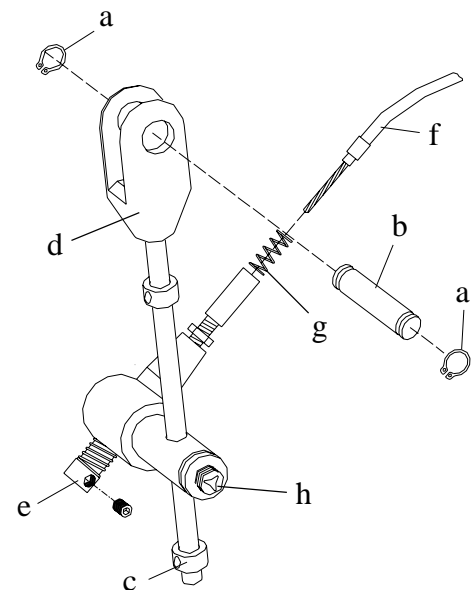
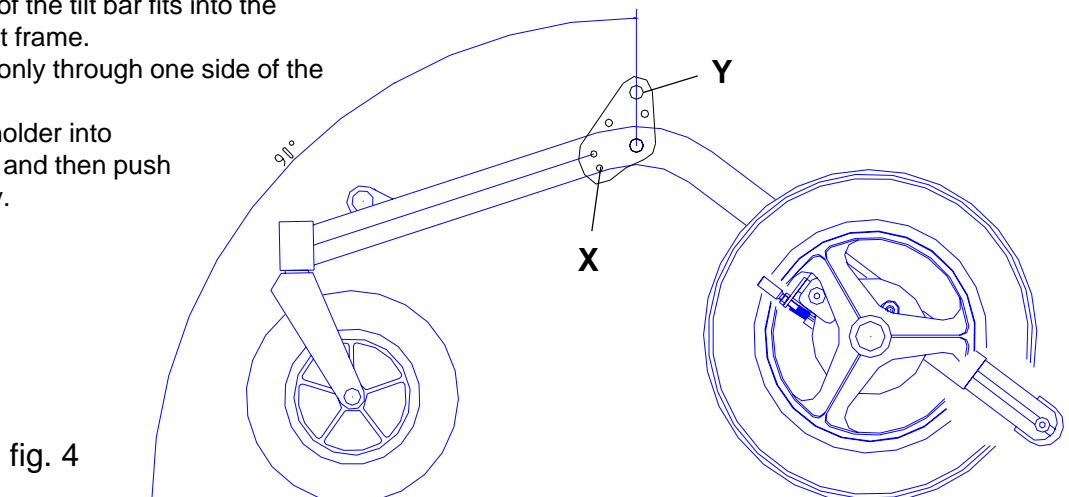

Figure 2
fig. 4
- Loosen the tilt bar (d) from the seat frame by removing one of the circlips (a) and pulling out the pin (b); see Figure 2 (use circlip pliers).
- Adjust the adaptor as shown in Figure 4 so that the hole, diameter 10, is directly above the attachment point in the wheel frame. The upper hole with a diameter of 6 mm must be in the centre of the side bar of the wheel frame.
- Fit the screw (4), the washer (5) and the locking nut (6).
- Tighten the nuts (3) and (6) securely.
- Push the tilt bar into the tilt locking unit at the same time as pushing the locking pin (e) in; see Figure 2. If the tilt bar does not move easily, you can loosen the driving brake (h) by unscrewing it a turn or two. Ensure that the tilt bar locks into one of the holes approximately in the middle of the bar.
- 7. In certain cases the adaptor can also be fitted with the fitting hole for the seat unit, Y, Figure 4, moved backwards (about 2 cm).**